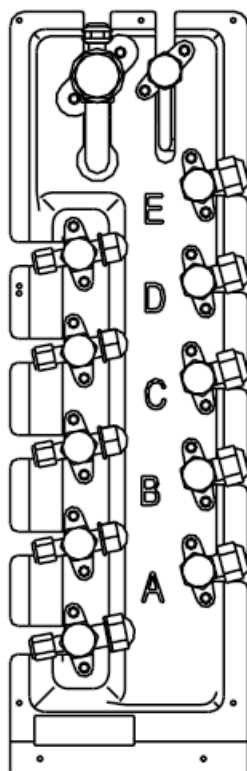

Fig. 3.9
- The 7kW indoor unit can only be connected to the A port, if there are two 7kW indoor units, they can be connected to A and B ports. (See Fig. 3.9). Please use the pipe adaptors provided.